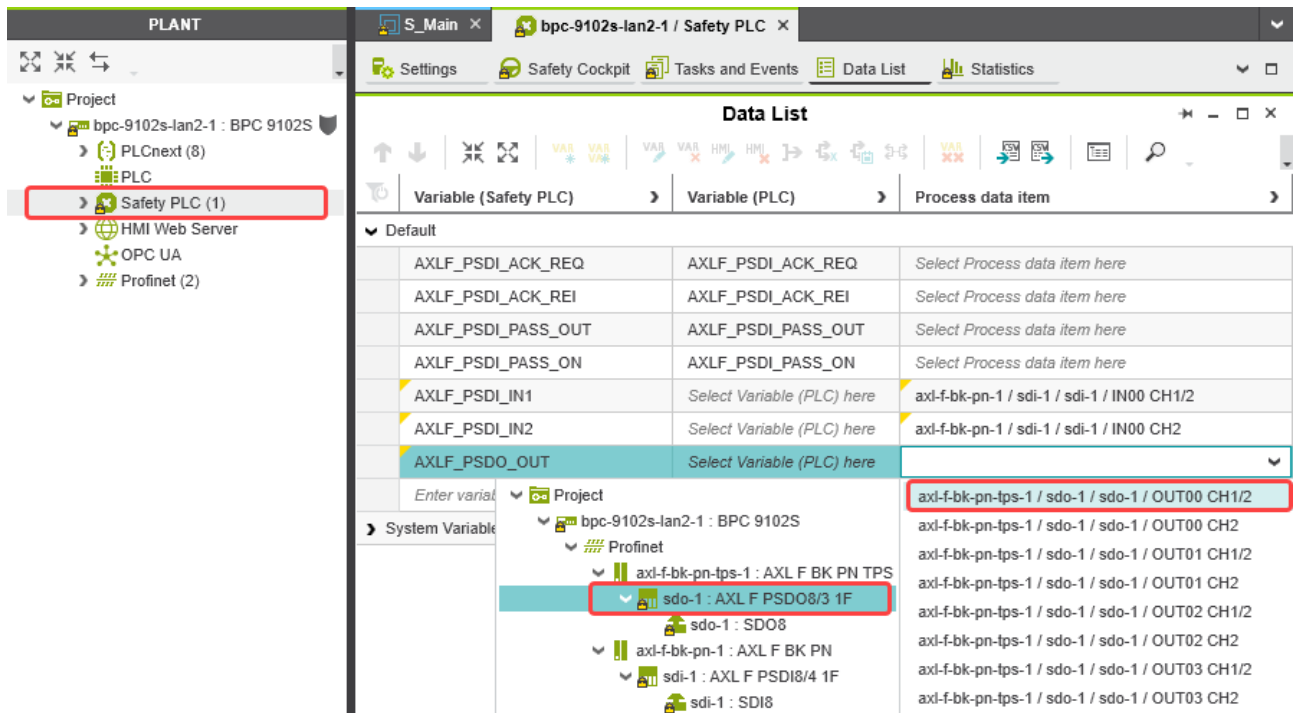

Figure 6-45 Assigning safety-related process data
- In the “Process data item” column, use the role picker to assign the corresponding process data to all variables (see marking in section Figure 6-45).